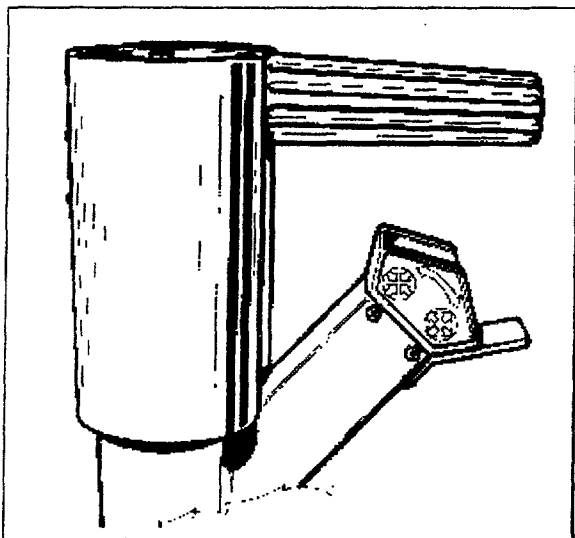

Fig.15
9. To open and close the chuck, operate the appropriate control (Fig.15).